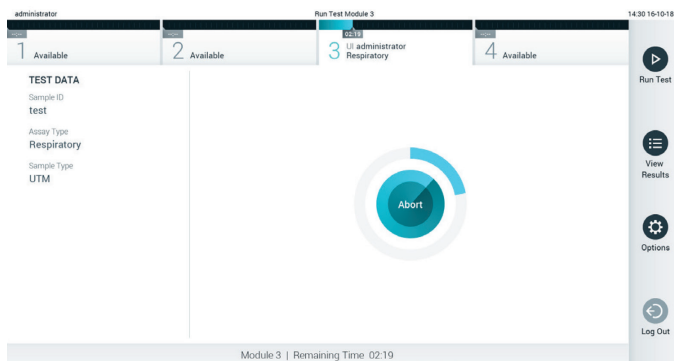

Figure 28. Test execution and remaining run time display.
9. While the test is running, the remaining run time is displayed on the touchscreen (Figure 28).